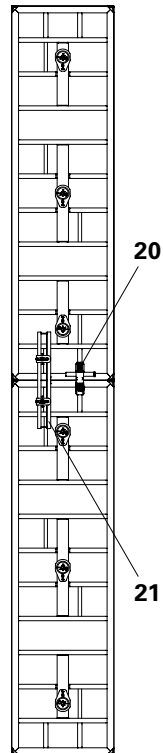

Fig. C12.01a
- For extension units H = 7.20 m, Alignment Couplers BFD (20) and Compensation Walers MAR 85 (21) are to be used on the panel joints. (Fig. C12.01a + C12.01b)